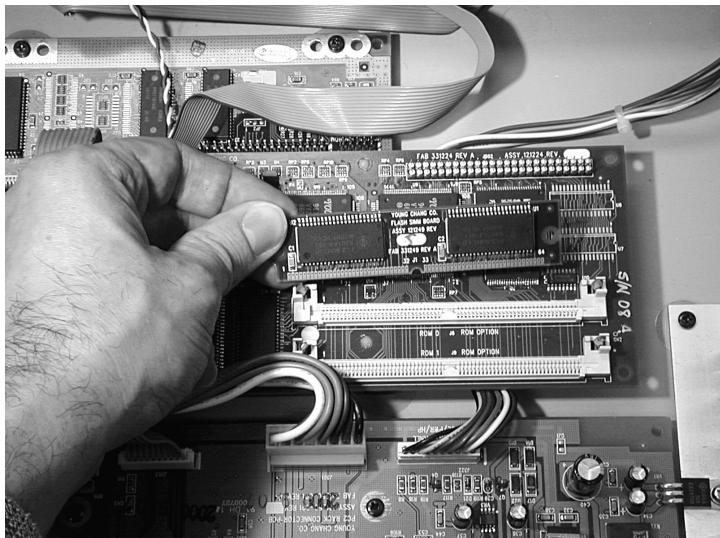

Figure 17 Proper orientation of option board
2. Grasp the board as shown in Figure 17, so that the chips face *toward* you when you insert the connecting edge of the board into the socket. Notice the semi-circular notch at the center of the connecting edge. This notch aligns with a key on the SIMM socket, and ensures that you position the board correctly in the socket.